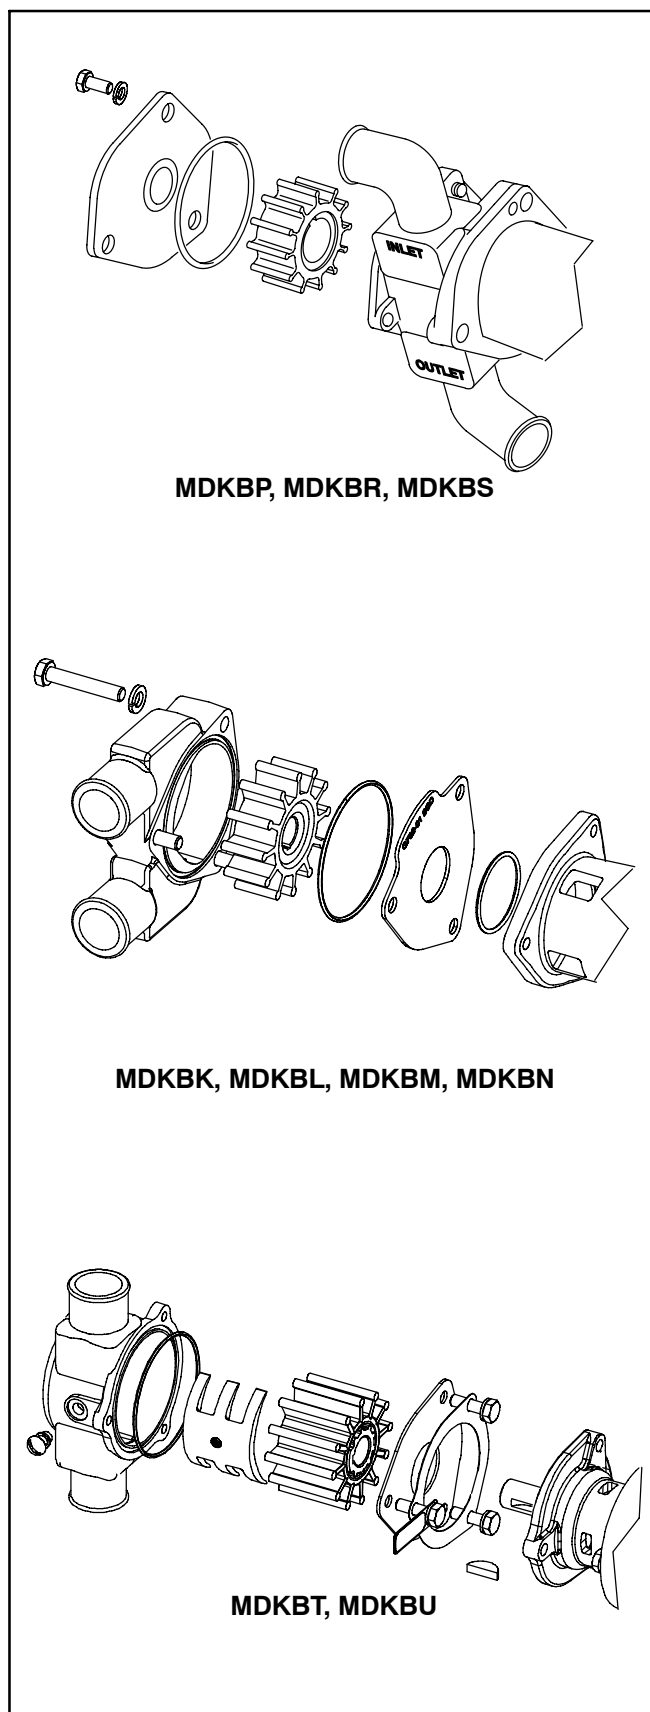

FIGURE 4-7. TYPICAL RAW WATER PUMPS
3. Loosen the three screws on the end of the pump body to remove the pump body or impeller cover, depending on construction (Figure 4-7).